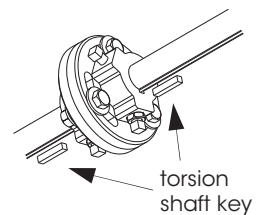

Fig. 5.2.2
- Cut torsion shaft key in half and insert into torsion bar at the torsion shaft couple, and fix into place by tightening the grub screws on the shaft couple Fig 5.2.2.